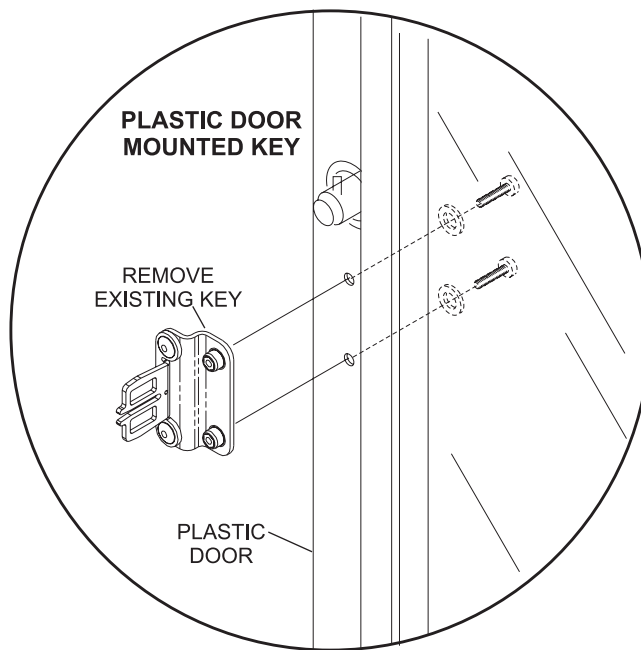

Figure 3
1. Remove the old ball return door interlock key installed on plastic door. Refer to *Figure 3*.